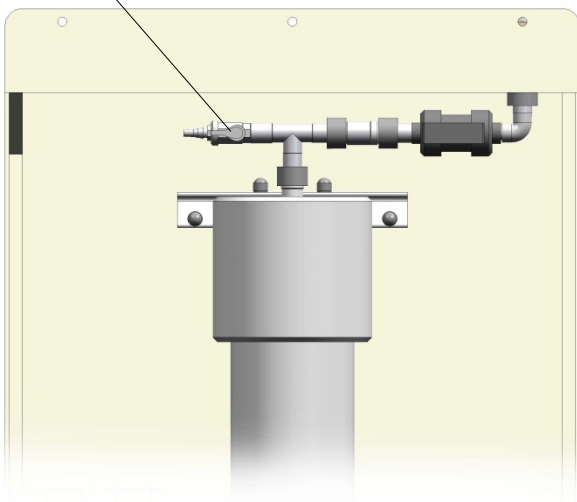

Fig. 09
4. Open the air relief cock at the back of the dosing system behind the reactor and the shut-off valves in the pressure pipe (see Fig. 09).